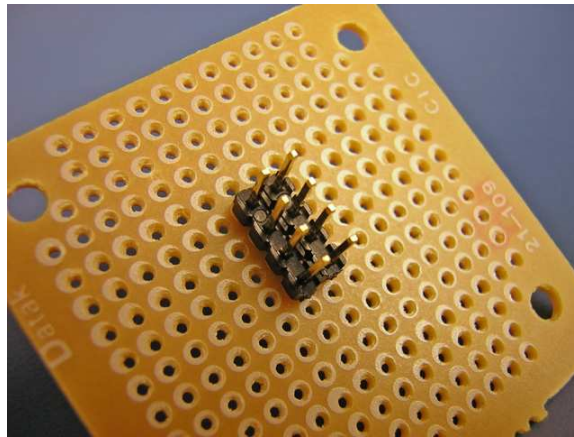

Figure 2: Pin Header for Jumper
1. To create the 4x2 pin header, we need to combine two 4x1 headers broken off the large array in your kit, they simply snap apart between pins (try to use a needle-nose pliers to be sure it breaks in the right place). We will use a jumper block to make the necessary connections. The two 4x1 pin headers will need to be placed in parallel to each other so that the jumper block connects together one pin from each of the headers, as shown in Figure 2.